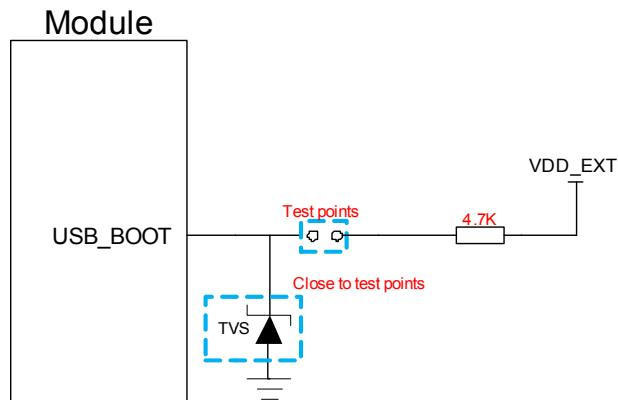

Figure 28: Reference Circuit of USB_BOOT Interface
2. When using MCU to control module to enter the emergency download mode, please follow the above timing sequence. It is not recommended to pull up USB_BOOT to 1.8 V before powering up VBAT. Connect the test points as shown in **Figure 28** can manually force the module to enter download mode.